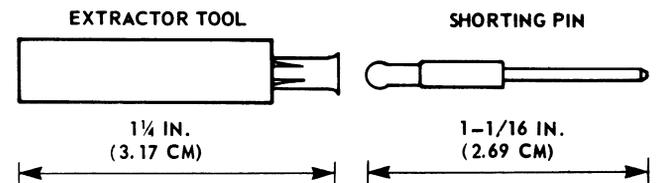

Fig. 12 – Shorting Pin and Extractor Tool
3.40 The shorting pin used to select a digit in the CRF is 1-1/8 inches (2.86 cm) long and consists of a solid metal shank with a plastic handle. A sketch of the shorting pin and extractor tool is shown in Fig. 12.